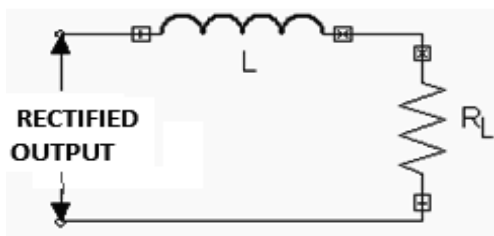

Figure 5: L Filter
6. Connect the inductor as shown in Figure 5 and observe the waveform across load resistor